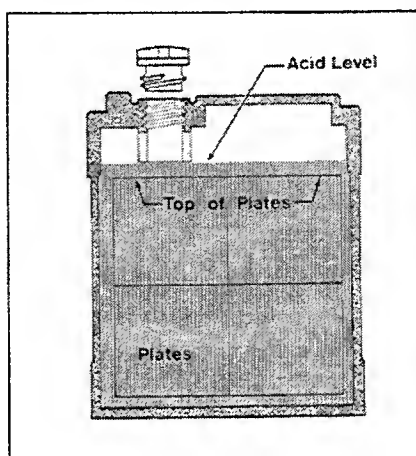

Figure 5-43: Keep battery cells filled up so the solution reaches the bottom of each filler well.
1. Every month or every ten (10) operating hours, whichever comes first, check the level of electrolyte solution in the battery cells:
- b) If the battery does not have level lines on the case, maintain the solution level at the lowest part of the filler well within each cell. See Figure 5-43.